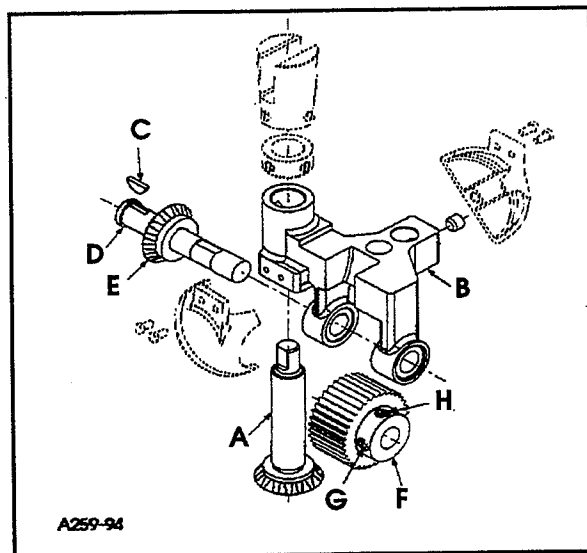

FIG. 17
Assemble driven gear (A, Fig. 17) through feed roller frame (B). Place woodruff key (C) into slot of feed roller shaft (D). Slide driven gear (E) on to shaft (D), make sure key (C) goes into slot in gear (E). While holding feed roller frame (B) with steel roller (F) between the two frame lobes, slide feed roller shaft (D) and assembled components through frame. Make sure that shoulder of roller (F) is to the right. Align screw (G) (first in operating direction on roller) on the flat of shaft (E). At the same time thrust shoulder of shaft (D) against right (inside) face of gear (E), make sure left edge of roller is against right (inside) face of left lobe. Secure screw (G) on flat of shaft (D) and tighten screw (H).